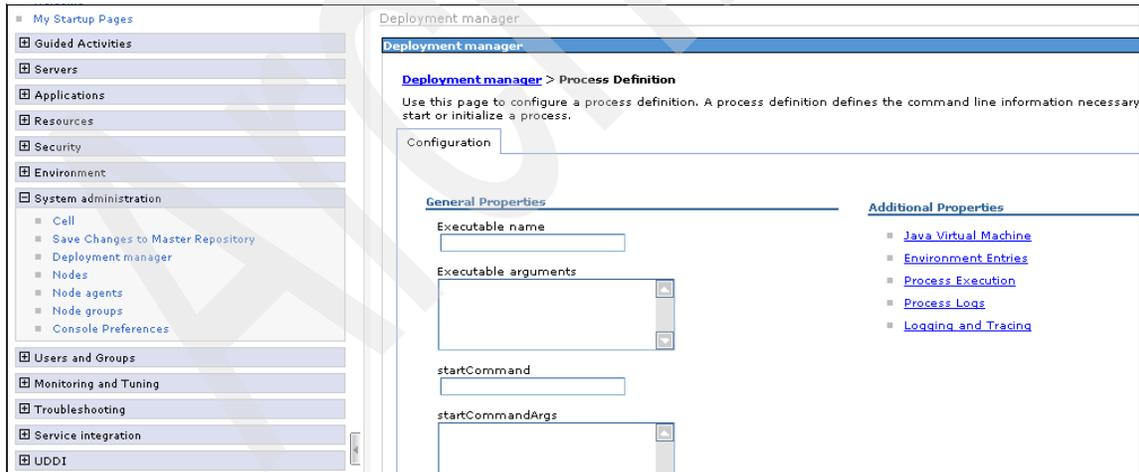

Figure A-8 Java Virtual Machine
- Click **Java Virtual Machine** (see Figure A-8).